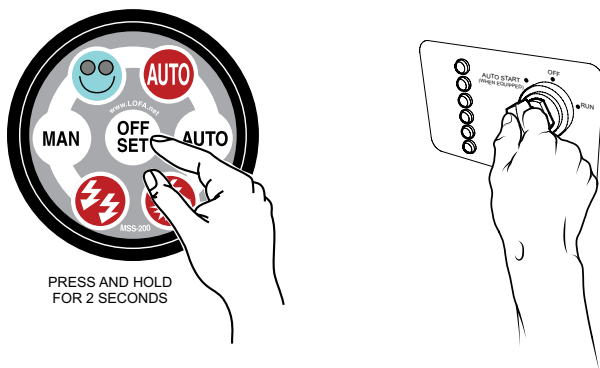

Figure 33. MSS-200 Controller Initialization
1. Programming is accomplished by holding down the **OFF/SET** button (Figure 33) on the MSS-200 for 2 seconds while energizing the controller. Energizing the MSS-200 controller is accomplished by turning the ignition key to the left position marked "**Auto Start**".